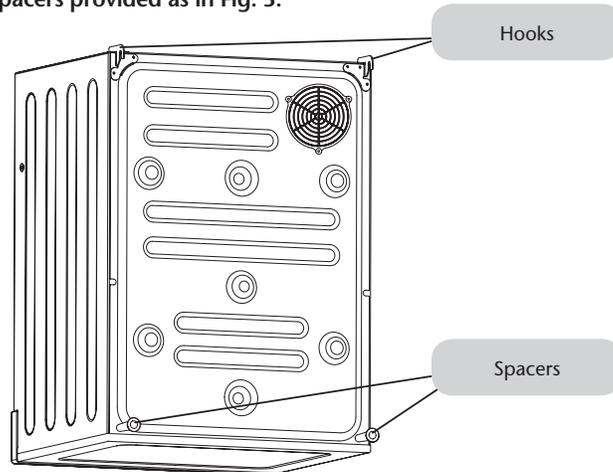

FIG. 3.
4. Align hooks as shown in Fig. 3 and refit screws tightly. Install the spacers as in Fig. 3.
To do this, firstly remove the screw located 4cm from the right corner of the inverted dryer (Fig. 3).